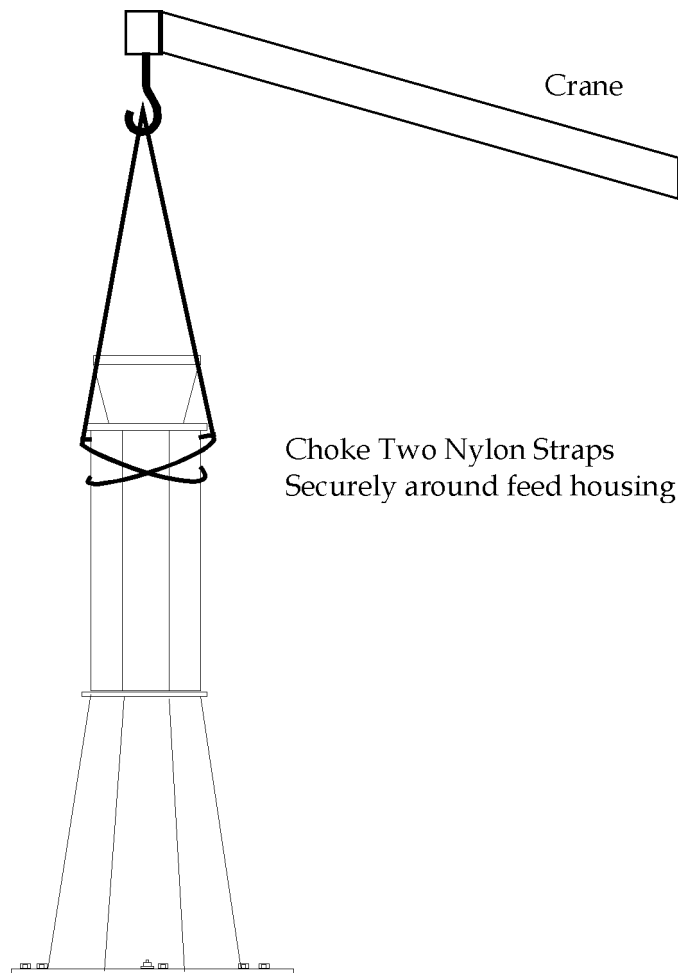

Figure 2-6. Hoisting Feed
1. Choke two nylon straps around the feed assembly and attach to lifting hook of crane as shown in Figure 2-6.